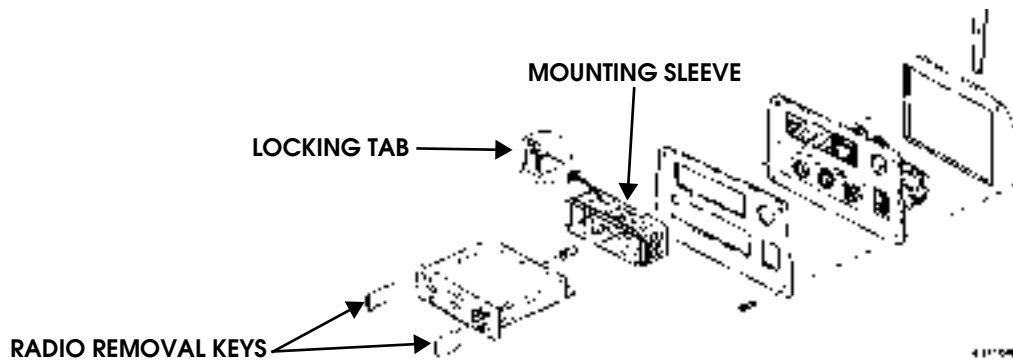

Figure 13-75: Radio Removal
4. If CD changer wire harness is to be replaced, radio must be removed to gain access to harness connection at the radio (Figure 13-75).